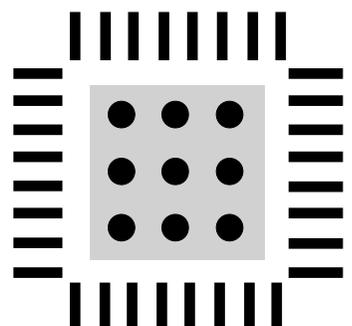

Figure 56. Exposed Pad Layout Example, Top View
- Vias should be placed to connect all layers of copper, allowing for efficient heat and energy conductivity. For an example, see Figure 56, which has nine vias arranged in a 3 inch  $\times$  3 inch grid in the pad area.